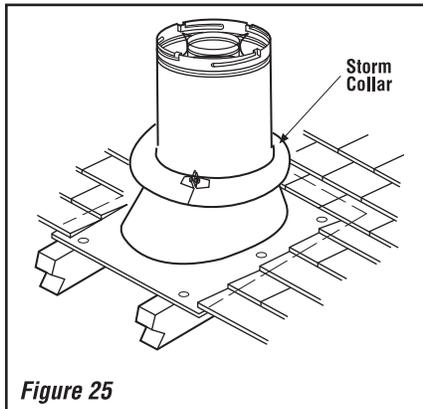

Figure 25
I. Install the roof flashing—Extend the vent sections through the roof structure. Install the roof flashing over the vent section and position such that the vent column rises vertically (use carpenter's level) (*Figure 25*). Nail along perimeter to secure flashing or adjust roofing to overlap the flashing edges at top and sides only and trim where necessary. Seal the top and both sides of the flashing with waterproof caulking.
J. Install the storm collar—Install the storm collar, supplied with the flashing, over the vent/flashing joint. See *Figure 25*. Loosen the storm collar screw. Slide collar down until it meets the top of the flashing. Tighten the adjusting screw. Apply non-combustible caulking or mastic around the circumference of the joint to provide a water tight seal.